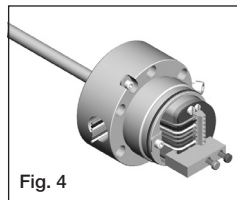

Fig. 4
- Step 3: Program the electrical stroke in accordance with the instructions in the standard Micropulse linear position sensor user's guide. (Fig. 4)